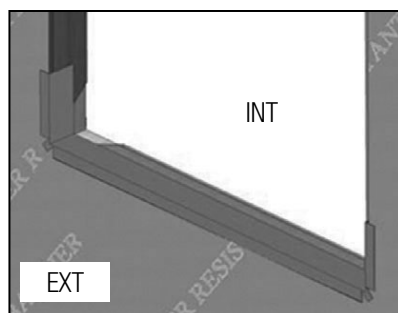

FIG. 9
- D) Apply sill flashing to the rough opening as shown below. (Fig. 9)